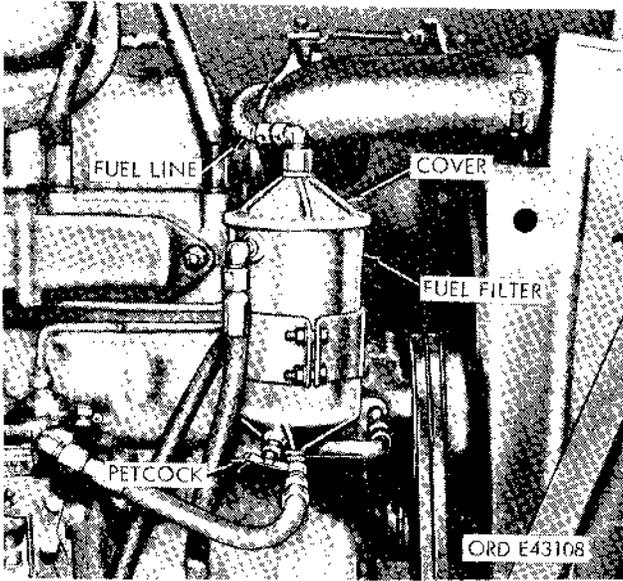

Figure 2-97. Secondary fuel filter—diesel models.
(1) Removal.
- (a) Open the pet cock and drain the fuel into a suitable container (fig. 2-97).
- (b) Disconnect the fuel line at the cover elbow (fig. 2-97).
(b) Position a new gasket and the cover on the housing (fig. 2-97).
(c) Connect the fuel line to the elbow on the cover (fig. 2-97), and close the drain cock.